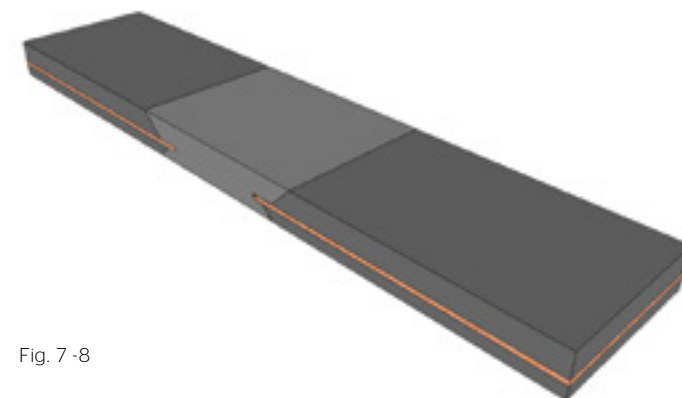

Fig. 7-8
45. Install the top cover rubber and the edge rubber. Be sure to have a tight fit at the 45° cover skives. Refer to Fig 7-8.